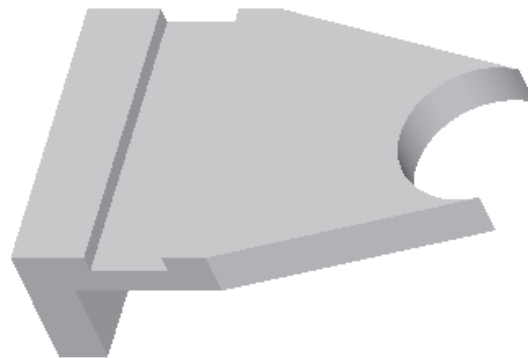

Figure 4-87 Model with the second extruded feature
apply the dimensions and constraints, and then extrude the sketch to the given depth, see Figure 4-87.
7. Now, choose the **OK** button from the **PROTRUSION** dialog box to confirm the feature creation and to exit the dialog box. The default trimetric view of the extruded feature is shown in Figure 4-87.